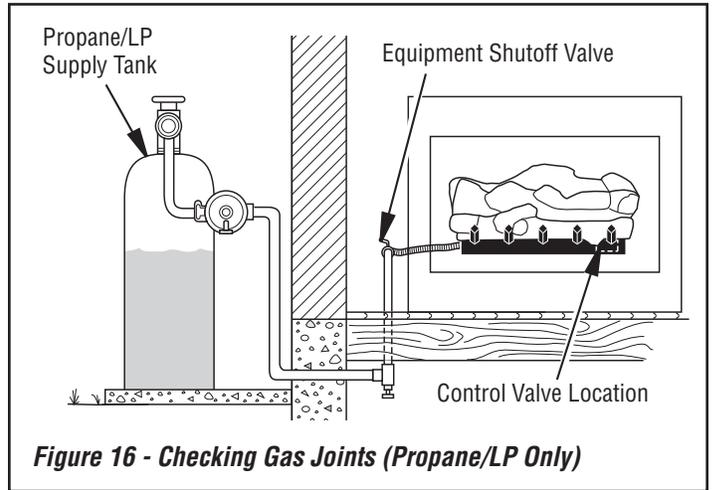
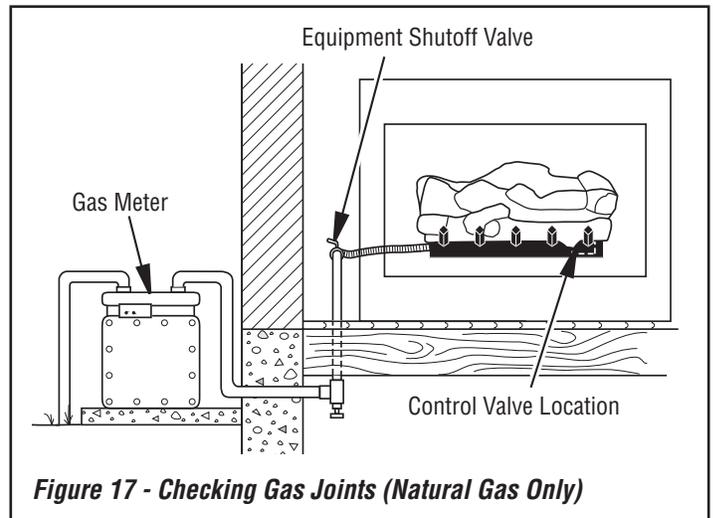

Figure 16 - Checking Gas Joints (Propane/LP Only)
Figure 17 - Checking Gas Joints (Natural Gas Only)
3. Check all joints from gas meter to equipment shutoff valve for natural gas or propane/LP supply to equipment shutoff valve for propane/LP (see *Figure 16* or *Figure 17*, page 13). Apply noncorrosive leak detection fluid to all joints. Bubbles forming show a leak.
4. Check all joints from gas meter to equipment shutoff valve for natural gas or propane/LP supply to equipment shutoff valve for propane/LP (see *Figure 16, page 13* or *Figure 17*). Apply noncorrosive leak detection fluid to all joints. Bubbles forming show a leak.